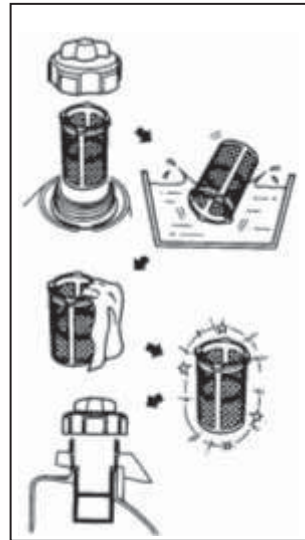

Fig. 12
5) CLEANING FUEL FILTER (See Fig. 12)